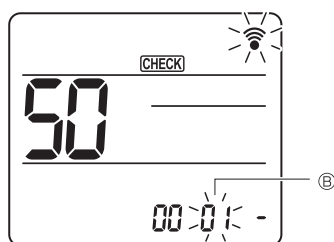

Fig. 3
Press the **↓** button to set Mode number ②. (Fig. 3)